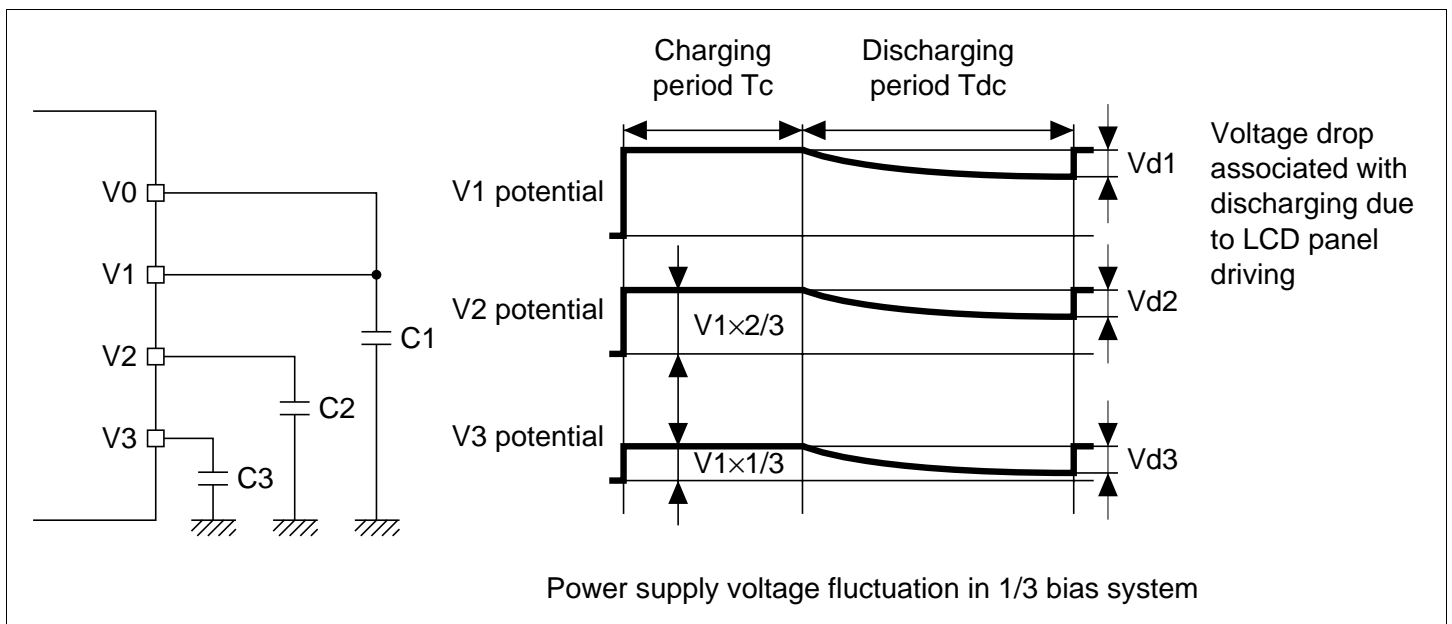

Figure 13.14 Example of Low-Power-Consumption LCD Drive Operation
- a. Capacitors are connected as external circuits to LCD power supply pins V_1 , V_2 , and V_3 , as shown in figure 13.14.
- b. The capacitors connected to V_1 , V_2 , and V_3 are repeatedly charged and discharged in the cycle shown in figure 13.14, maintaining the potentials.
- a. During charging period T_c in the figure, the potential is divided among pins V1, V2, and V3 by the built-in split-resistance (the potential of V2 being 2/3 that of V1, and that of V3 being 1/3 that of V1), as shown in figure 13.14, and external capacitors C1, C2, and C3 are charged. The LCD panel is continues to be driven during this time.
- d. In this way, the capacitors connected to V1, V2, and V3 are repeatedly charged and discharged in the cycle shown in figure 13.14, maintaining the potentials and continuously driving the LCD panel.